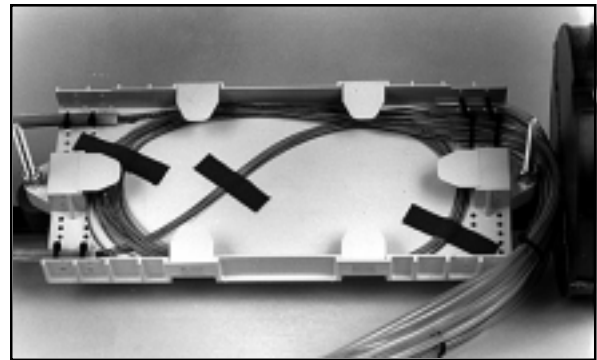

FIGURE 28 – SECURING TRANSPORT TUBES TO TRANSITION COMPARTMENT
12.07 Route transport tubes and secure using the tie wraps provided. Secure all the transport tubes to the inside tie wrap locations. (Figure 28)